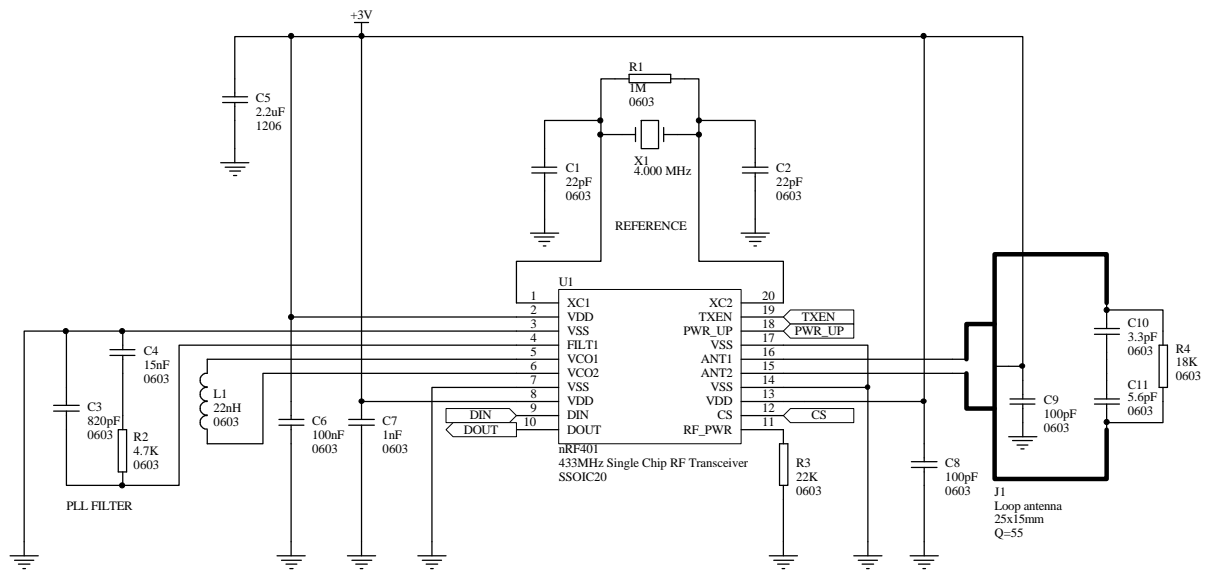
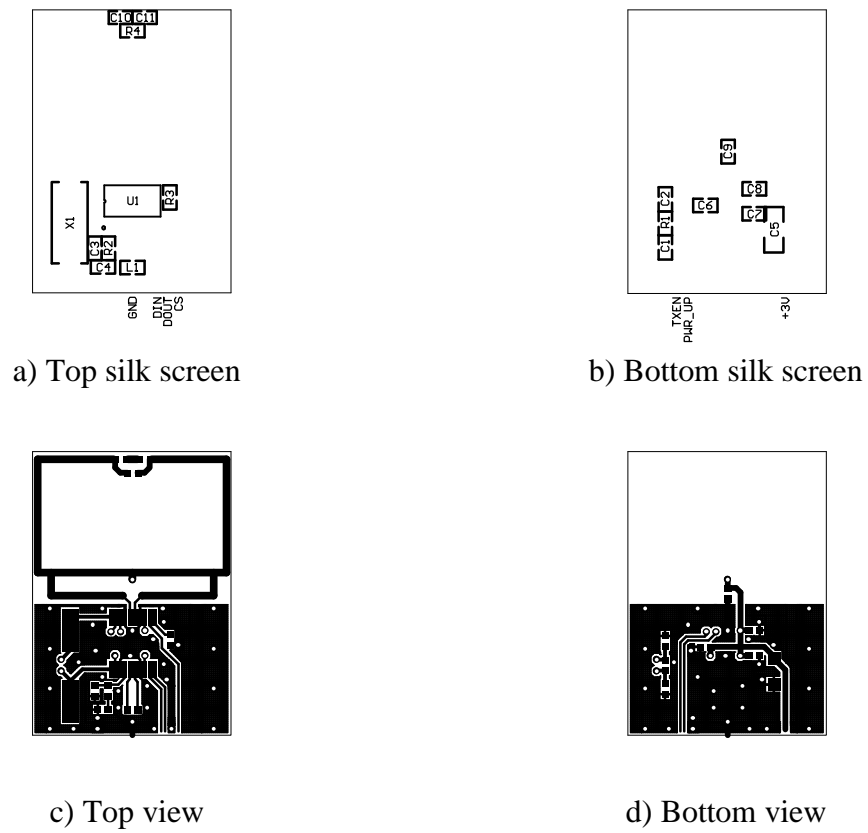

Figure 12. nRF401 application schematic.
Figure 13. PCB layout (example) for nRF401 with loop antenna.
Figure 12 shows a typical application schematic with a differential loop antenna on a Printed Circuit Board (PCB). The output stage (PA) consists of two open collector transistors in a differential pair configuration. VDD to the PA must be supplied through the collector load. When connecting a differential loop antenna to the ANT1/ANT2 pins, VDD should be supplied through the centre of the loop antenna as shown in Figure 12.
The synthesiser loop filter is an external, single-ended second order lag-lead filter. The recommended filter component values are: C3 = 820 pF, C4 =15 nF, and R2 = 4.7 kΩ, see Figure 12.
C1 and C2 are 0603 SMD capacitors as shown in the application schematic, see Figure 12 and Table 9. CPCB1 and CPCB2 are the layout parasitic capacitance on the circuit board.
The VCO inductor placement is important. The optimum placement of the VCO inductor gives a PLL loop filter voltage of  $1.1 \pm 0.2$  V, which can be measured at FILT1 (pin4). For a 0603 size inductor the length between the centre of the VCO1/VCO2 pad and the centre of the inductor pad should be 5.4 mm, see Figure 13 (c) (layout, top view), for a 2 layer, 1.6 mm thick FR4 PCB.
Figure 13 shows a PCB layout example for the application schematic in Figure 12. A double-sided FR-4 board of 1.6mm thickness is used. This PCB has a continuous ground plane on the bottom layer. Additionally, there are ground areas on the component side of the board to ensure sufficient grounding of critical components. A large number of via holes connect the top layer ground areas to the bottom layer ground plane. There is no ground plane beneath the antenna.